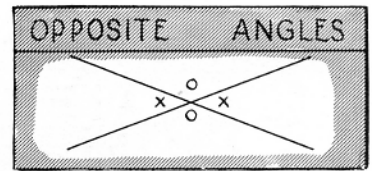

FIG. 338
- When two straight lines intersect, the opposite angles formed by the intersecting lines are equal. The angles marked (X) and the angles marked (O) are equal (Fig. 338).